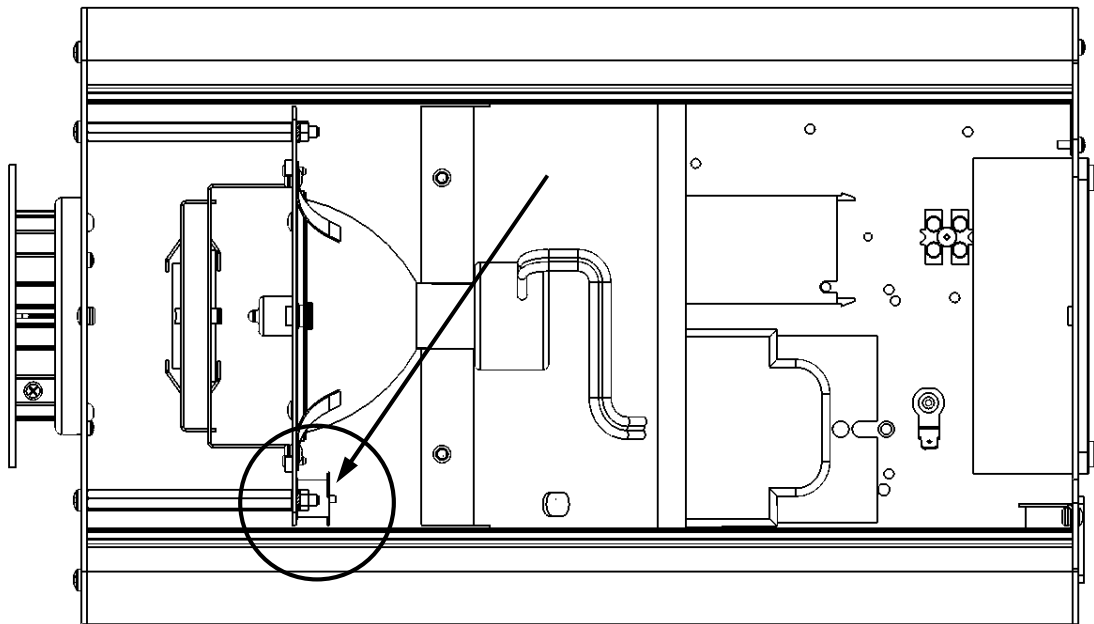

Fig 2.
3. NOTE that FL 150 – 2 is fitted with a auto resetting temperature cut-out (80° C), placed beside the lamp. See Fig 2 below.